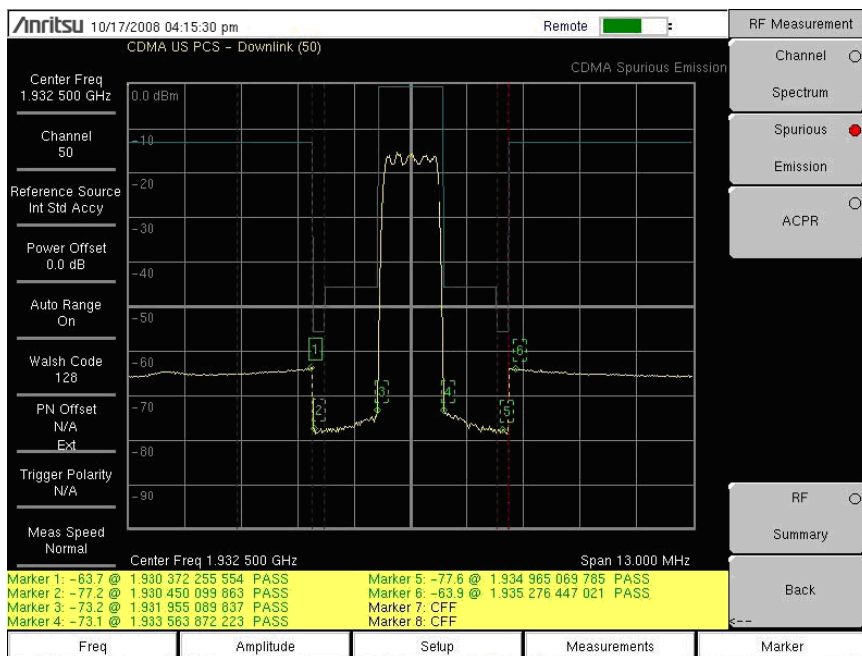

Figure 2-4. RF Measurement, Spurious Emission
2. Press the Spurious Emission submenu key to activate the measurement (Figure 2-4). The red dot on the submenu key indicates that it is selected.